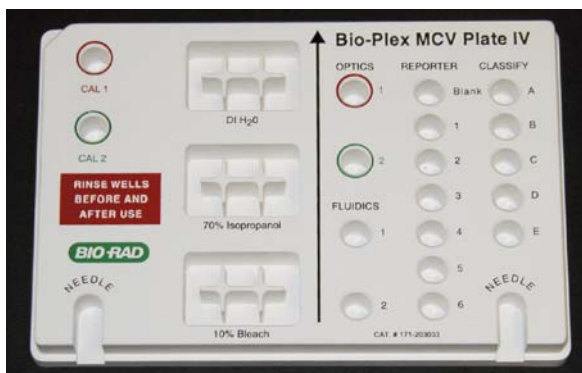

Fig. 18. MCV plate IV.
1. Fill the maintenance, calibration, and validation (MCV) plate (Figure 18) with deionized water and 70% isopropyl alcohol in the appropriate wells.